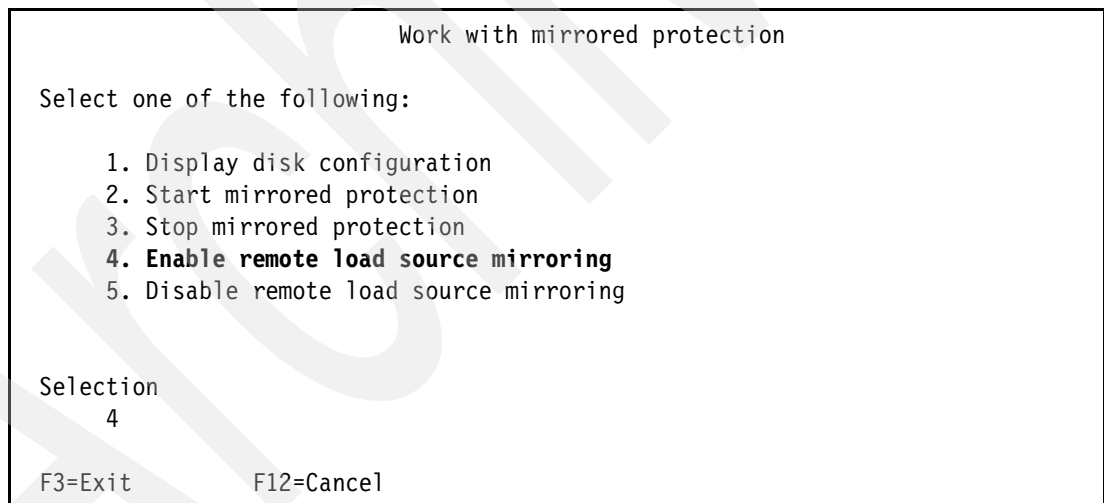

Figure 5-54 Setting up remote load source mirroring
4. From the Work with mirrored protection menu (Figure 5-54), select **4. Enable remote load source mirroring**. This option does not perform the remote load source mirroring but tells the system that you want to mirror the load source when mirroring is started.